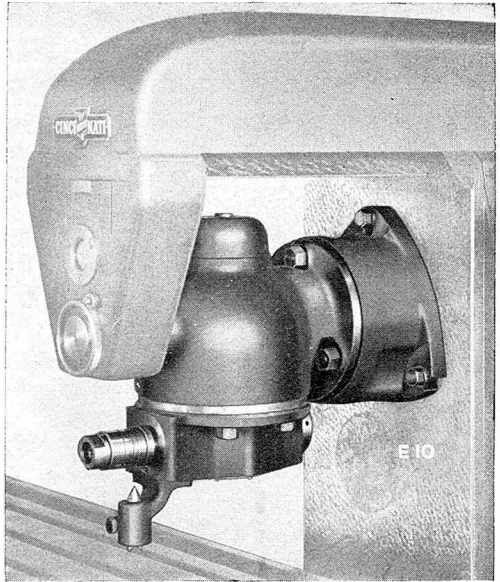

Figure 63
1. If the machine is a plain miller, obviously the table can not be swiveled to bring the work piece to the correct helix angle with the cutter. It then becomes necessary to swivel the cutter. This angular setting is obtained by means of the auxiliary Universal Spiral Milling Attachment. (Fig. 63).